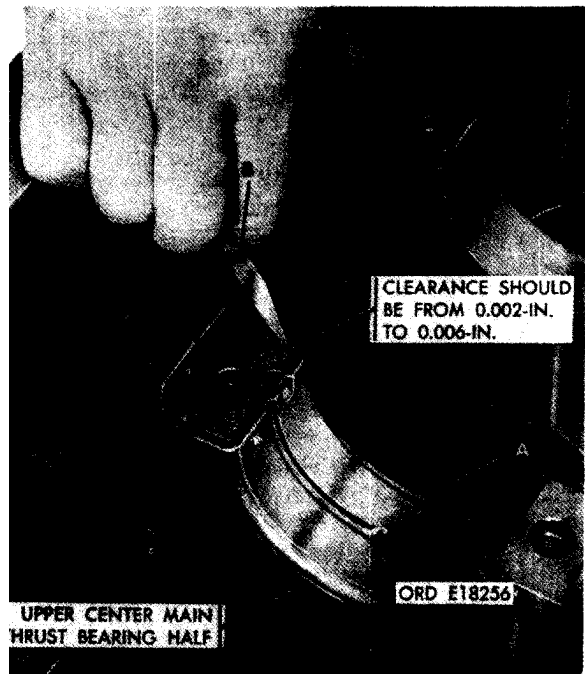

FIGURE 325. CHECKING CLEARANCE BETWEEN UPPER CENTER MAIN THRUST SLEEVE BEARING HALF AND BEARING BORE FLANGE OF CYLINDER AND CRANKCASE.
- (10) Preparation for main bearing bore inspection. Serviceable bearing halves must be used for main bearing bore check. If original bearing halves are used, they must be installed in their original locations.
- (11) Check center main thrust bearing side clearance. Figure 325. (A) Apply Prussian blue and position upper center main thrust sleeve bearing half in bore of cylinder and crankcase assembly. (B) Check clearance between bearing flange and shoulder of cylinder and crankcase bore using a feeler gage. Clearance should be from 0.002 to 0.006-inch.